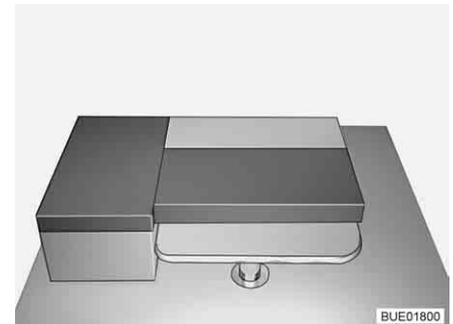

Fig. 106 After conversion
- Insert the long back cushion between the seat cushion and the wall (see Fig. 106).